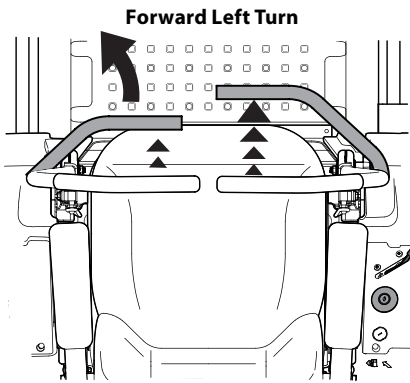

Figure 3-4
1. To turn to the left, move the left drive control lever rearward of the right lever. See Figure 3-4.